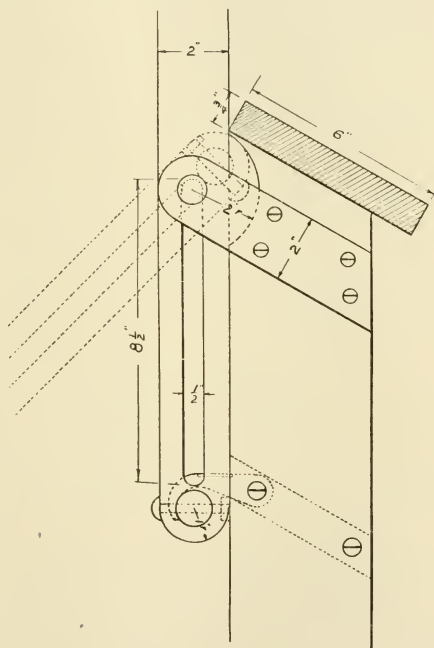

FIG. 78.—DETAIL AT TOP OF STEP LADDER.
6. **Cutting the curve in the ends of the side pieces.**—In cutting the curve under the top step, lay a side piece on the bench and place a block against the edge near the acute angle of the top of the piece. Gauge a line 1" from the edge of the block that rests against the side piece and set the compass at 2"; scribe an arc similar to the one in the detailed drawing, Fig. 78. Saw this out with a keyhole saw and smooth with sandpaper.